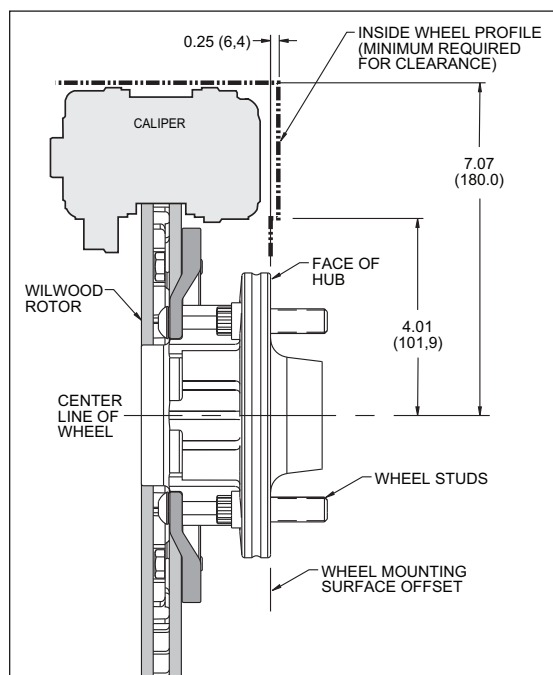

Figure 3. Wheel Clearance Diagram
- Review the wheel clearance diagram (figure 3, page 5) to verify that there is adequate clearance with the wheels you will be using with the installation.
- Verify wheel clearance utilizing figure 3.